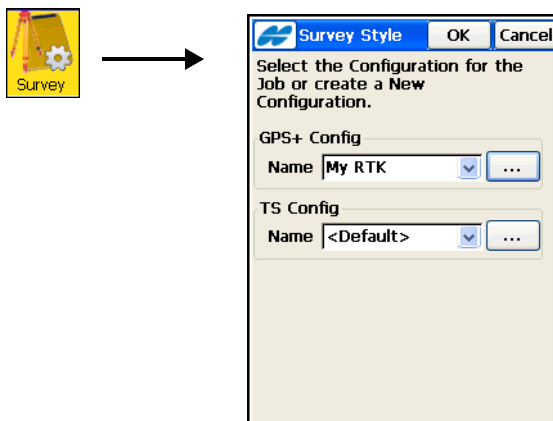

Figure 3-2. Survey Style
To configure a survey, tap the **Survey** icon or use the New Job Wizard (see “Creating a New Job” on page 2-2). The **Survey Style** screen displays (Figure 3-2).
- **Finish** – saves the settings and returns to the *Survey Style* screen (Figure 3-2 on page 3-2).
- **Finish** – saves the changes and returns to the **Survey Style** screen (Figure 3-2 on page 3-2).